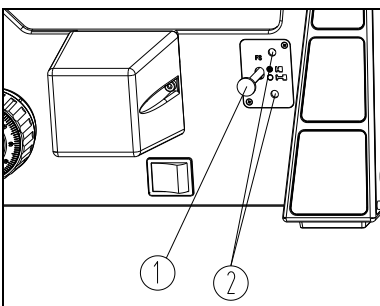

Fig. 32
- (1) Push the field diaphragm adjusting pole ① to the innermost to adjust field diaphragm to the smallest.
- (2) Observe from eyepiece to find image of field diaphragm.
- (3) Adjust two field diaphragm centering screws ②, to move the image to the center of view field. (See Fig. 32)